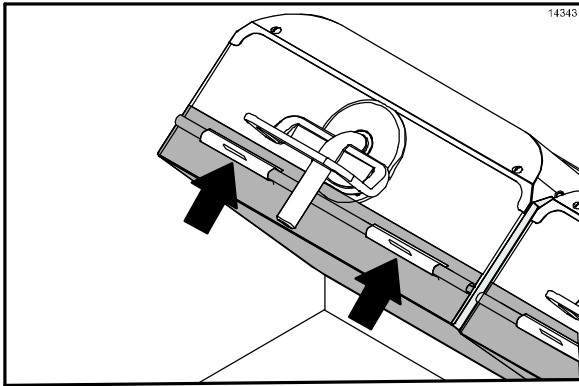

Figure 61
34. Re-install the upper release sheets. Secure the sheets with the locking clips and bars. (See Figure 61.)